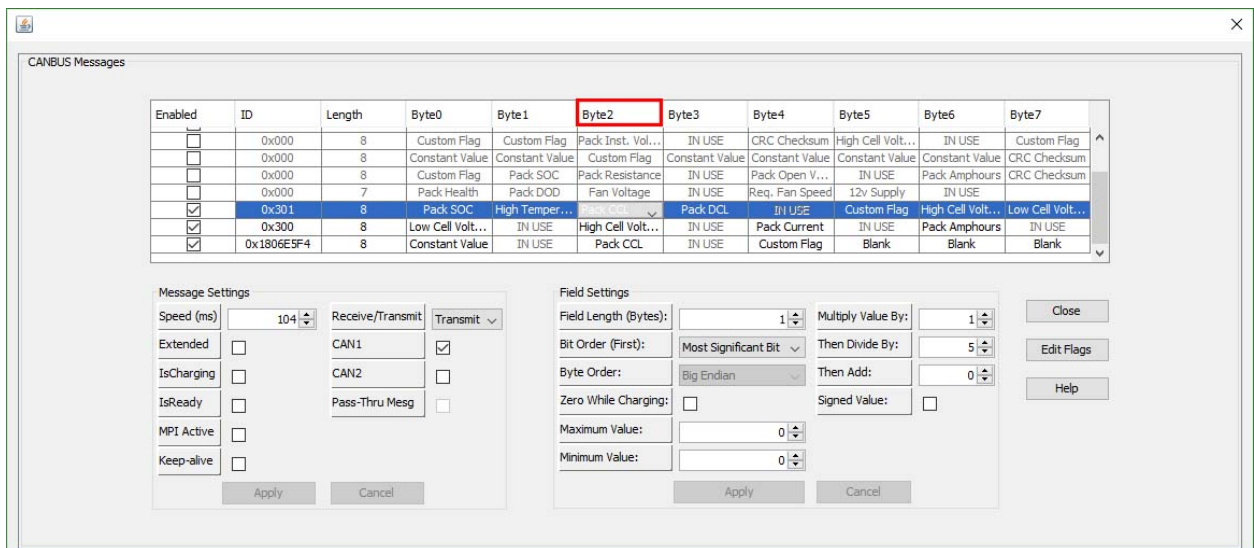
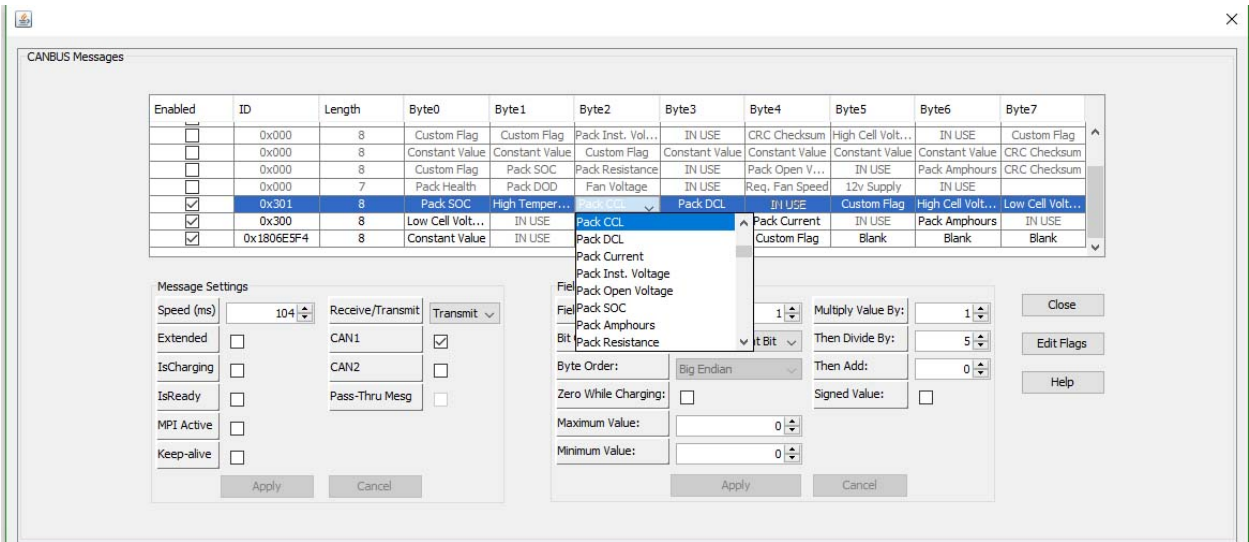

Fig. 24
Fig. 25
- The following is the settings for **PACK CCL**. The Byte used is Byte2 in message 0x301. In the dropdown menu for Byte2 make sure that **PACK CCL** is selected. (Fig. 24 Fig. 25)